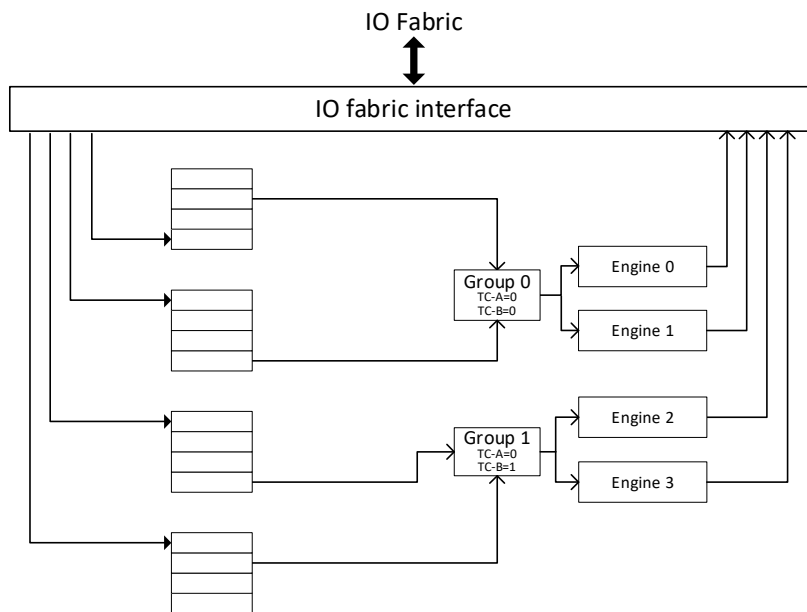

Figure 3-2: Sample Group Configuration 1
Although the Intel DSA architecture allows great flexibility in configuring work queues, groups, and engines, the hardware is designed with the intent to be used in specific configurations. An example configuration is shown in Figure 3-2 with two groups, each provisioned with two engines. Hardware uses either engine in a group to process descriptors from any work queue in the group. In this configuration, if one engine has a stall due to a high-latency memory address translation or page fault, the other engine can continue to operate and maximize the throughput of the overall device.
Figure 3-2 shows example Traffic Class (TC) values for the two groups. In Group 0 both TC values are 0, while in Group 1, TC-B is 1. This example configuration might be used when Group 0 is used solely for operations that access DRAM and Group 1 is used for operations that access both DRAM and persistent memory. The TC Selector flags in descriptors submitted to Group 1 indicate whether each address in the descriptor refers to DRAM or persistent memory. See chapter 4 for information on Traffic Classes and how they can be used to control QoS.
Figure 3-2 shows two work queues in each group, but there may be any number up to the maximum number of WQs supported. The WQs in a group may be shared WQs with different priorities, or one shared WQ and the others dedicated WQs, or multiple dedicated WQs with the same or different priorities.